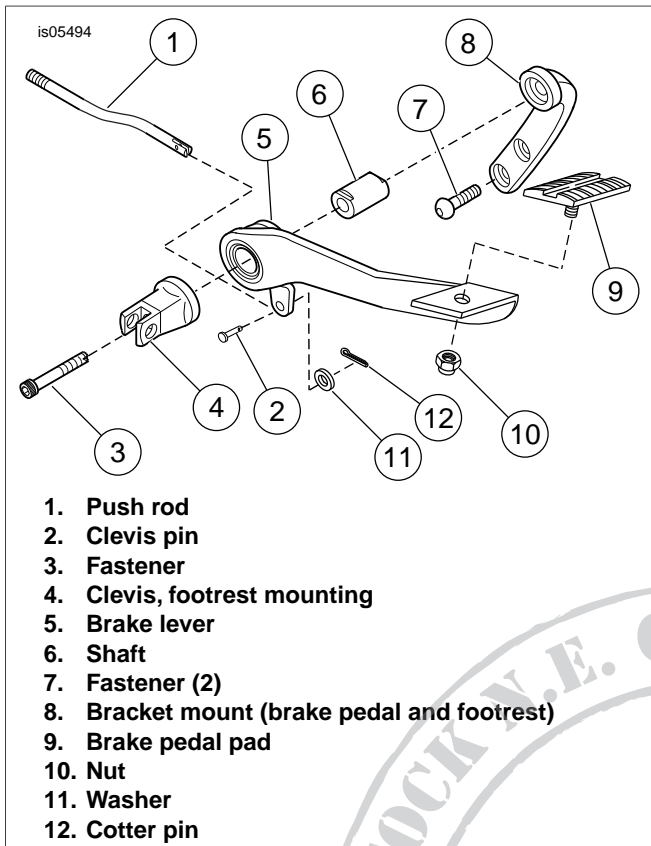
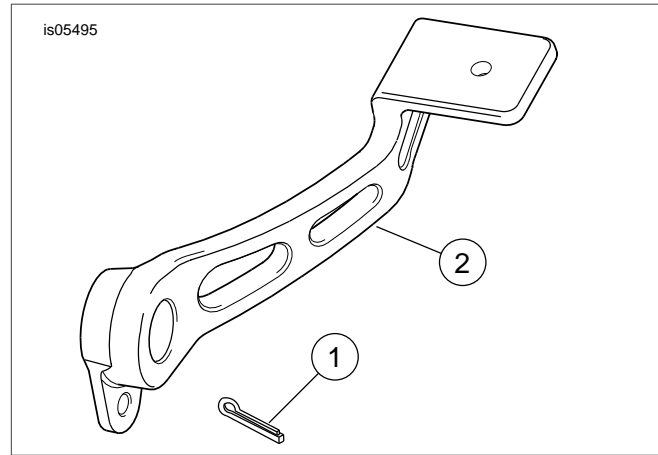

Figure 1. Stock Brake Lever (2005-Earlier Models Shown)
Figure 2. Service Parts: Billet-Style Rear Brake Lever
See Figure 2 and Table 1.
1. See Figure 1. Remove cotter pin (12) and washer (11) from clevis pin (2). If necessary, use a pliers to remove cotter pin. Discard cotter pin.
3. Remove clevis pin (2) from the push rod (1). Thoroughly clean and examine clevis pin assembly for wear. Replace if necessary.
4. Remove brake lever mounting fastener (3) and footrest mounting clevis (4) from bracket mount (8). Save all hardware for assembly.
5. Remove and save the brake pedal pad (9) and nut (10), if equipped. Discard brake lever (5).
6. Thoroughly clean the lever mounting shaft (6) of grease and dirt.
1. See Figure 2. Install billet-style brake lever (2) onto shaft.
2. See Figure 1. Align the brake lever shaft and footrest mounting clevis (4) and secure to bracket mount (8) with fastener (3). Tighten fastener to 32-35 ft-lb (43-47 Nm).
3. Align clevis holes and insert clevis pin (2) (removed earlier). If clevis pin is a press-fit, tap it in gently while supporting the mating clevis of the master cylinder.
4. Install washer (11) as shown and insert new cotter pin (item 1, Figure 2) to secure clevis pin (2).
5. **For 2003-2005 Models:** Install brake pad (9) to brake lever with nut (10). Tighten securely.